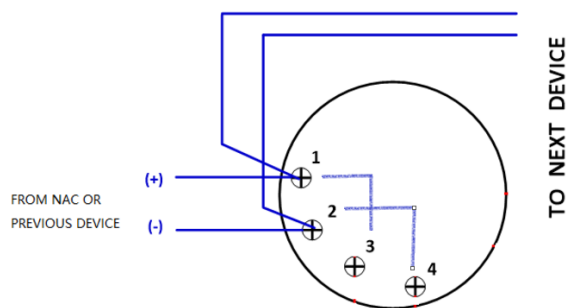

Figure 2. Wiring Diagram
- Connect the wires. See Figure 2.